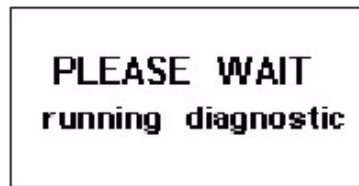

Figure 2 - LCD Display - Running Diagnostic
- 4.2 The pump will first go through a self-test routine (Refer to Figure 2).